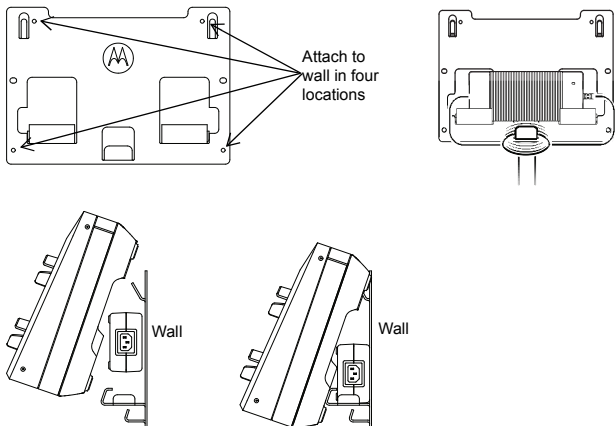

Figure 4: Mounting Multi-Unit Charger to wall bracket
4. Hang the Multi-Unit Charger on wall bracket as shown in Figure 4.